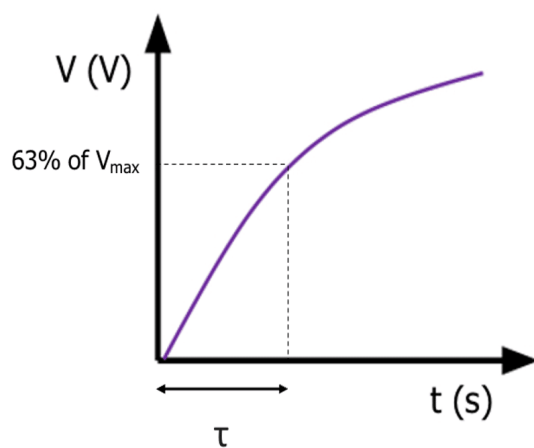

Figure 3.1: Capacitor charging curve
Capacitor charging and discharging curves are as shown in figure 3.1 and 3.2 respectively. RC time constant (τ) is the product of circuit resistance (R) and circuit capacitance (C).